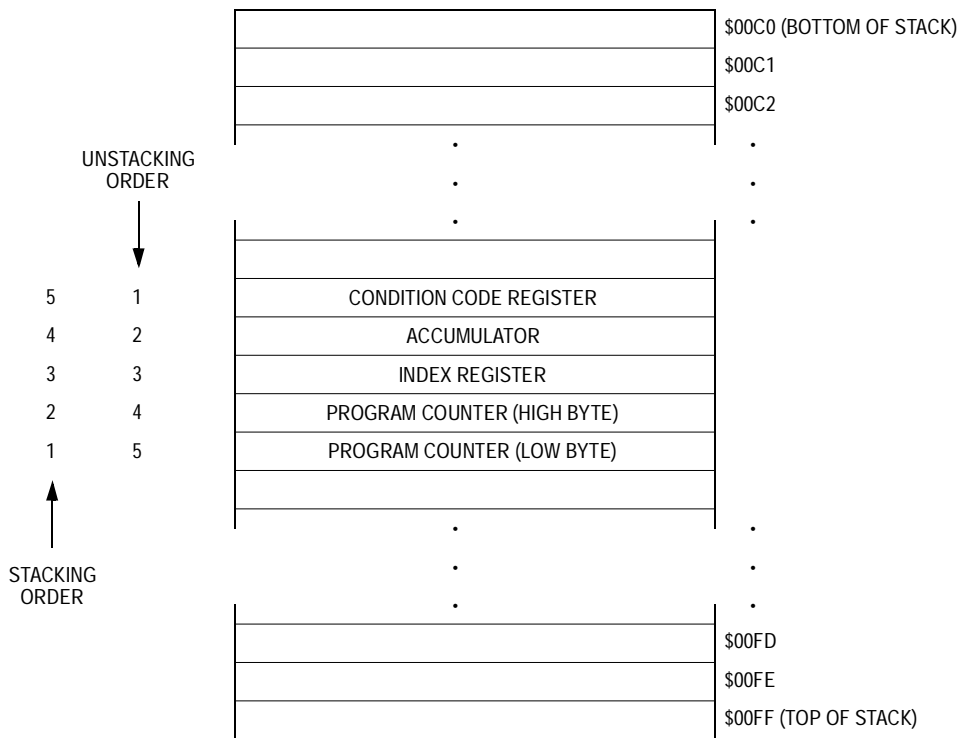

Figure 4-4. Interrupt Stacking Order
1. Stores the CPU registers on the stack in the order shown in Figure 4-4
The return-from-interrupt (RTI) instruction causes the CPU to recover the CPU registers from the stack as shown in Figure 4-4.